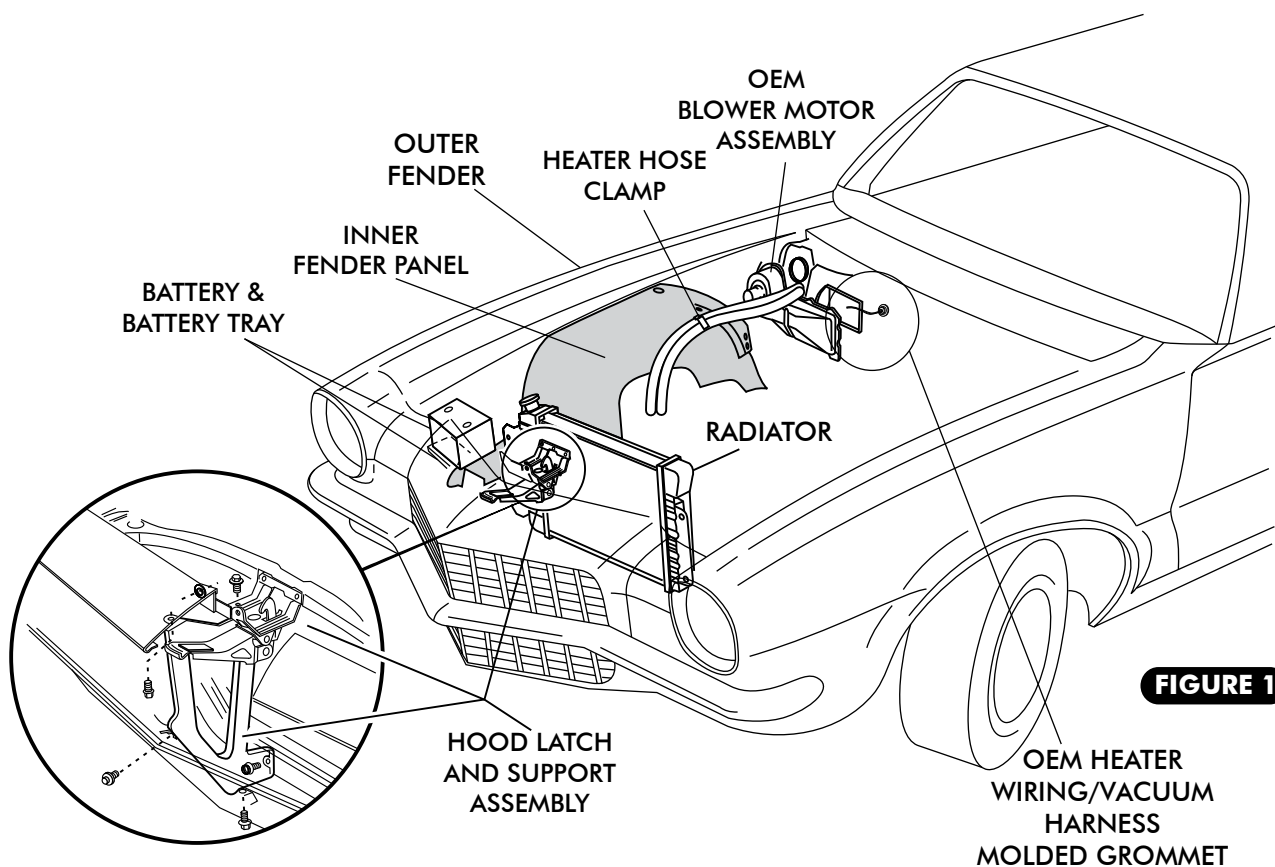

FIGURE 1
- ☐ BATTERY AND BATTERY TRAY (RETAIN). SEE FIGURE 1.
- ☐ OEM HEATER HOSES (DISCARD). SEE FIGURE 1.
- ☐ REMOVE OEM HEATER WIRING/VACUUM HARNESS MOLDED GROMMET. SEE FIGURE 1.